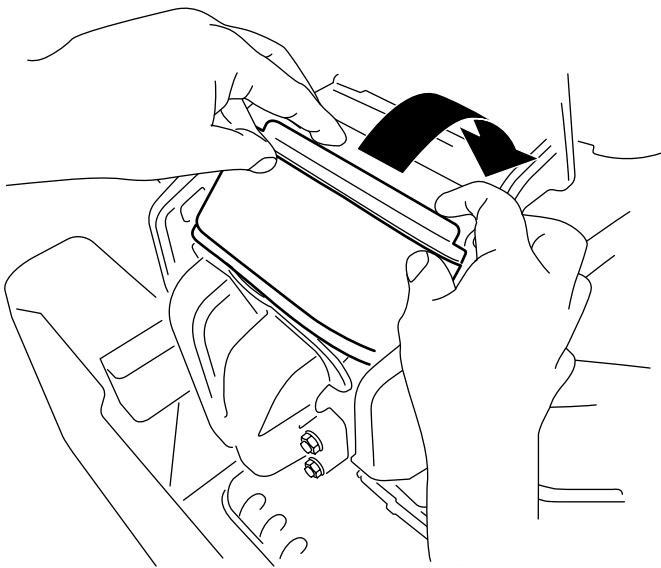

Figure 71
3. Rotate the filter down into the chamber and fully seat it against the manifold (Figure 71).